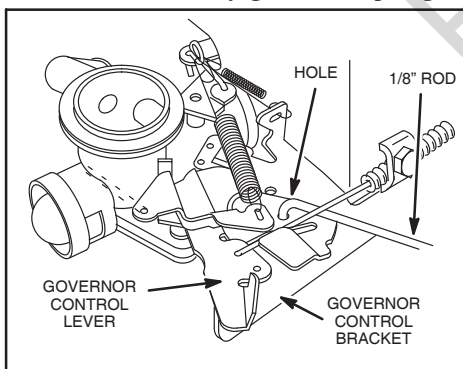

Fig. 4 - Locating Hole
2. Move governor lever to "Fast Position." Hole in lever will line up with hole in governor control bracket, Fig. 4.